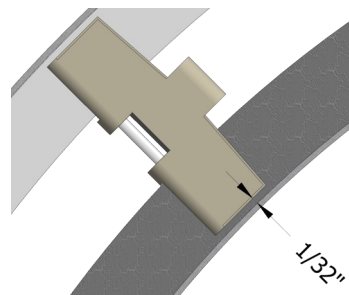

Figure 3
- Inside turn – When edge of chain is 1/32" or less from inside edge of frame, it is time to replace wearstrip (See Figure 3)